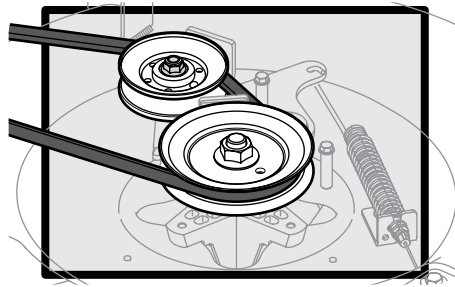

Figure 4-3
- Clean the top of the mower deck, under the spindle covers and belt area. See Figure 4-3.
- Clean around and near the transmission, axle and the fan area. See Figure 4-3.